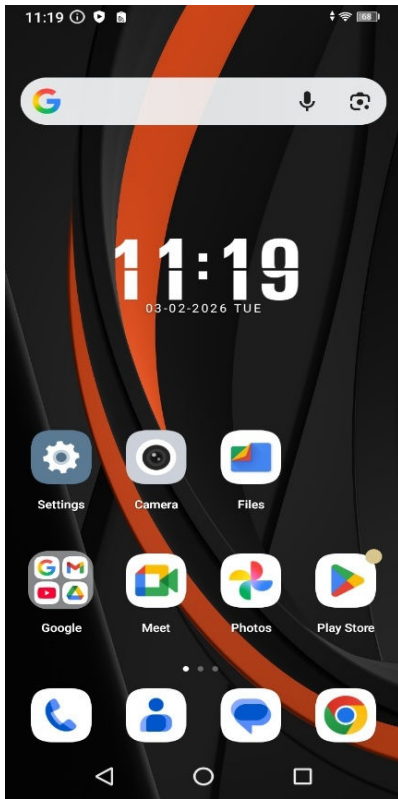

Figure 12 – Home page
11. On the home page, locate “Files” and tap it (Figure 12).